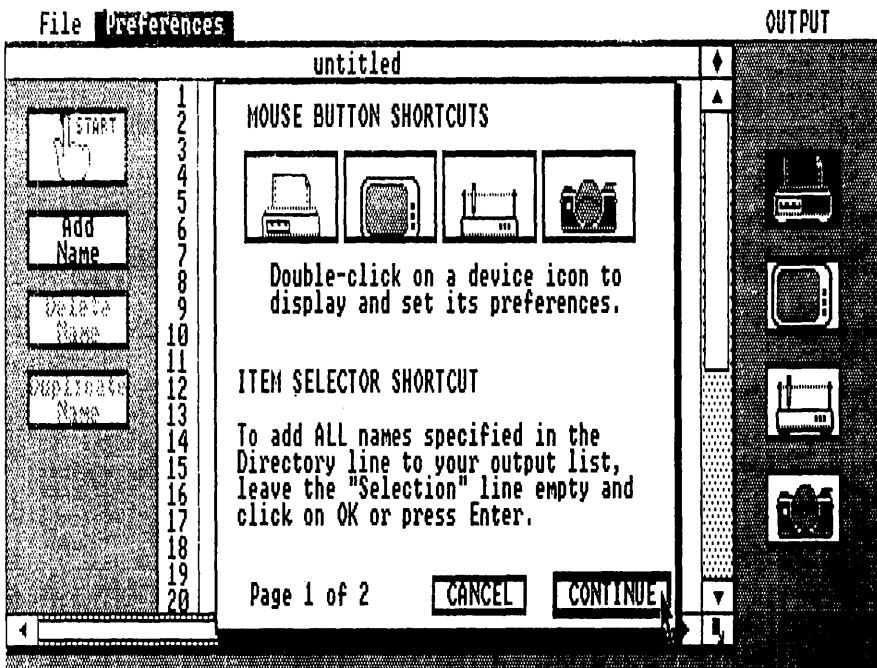

Fig. A-13. Selecting the Shortcuts . . . command displays a two-page dialog.
**Shortcuts . . .** A two-page dialog listing several keystroke and mouse button shortcuts that can be used with OUTPUT (Fig. A-13).